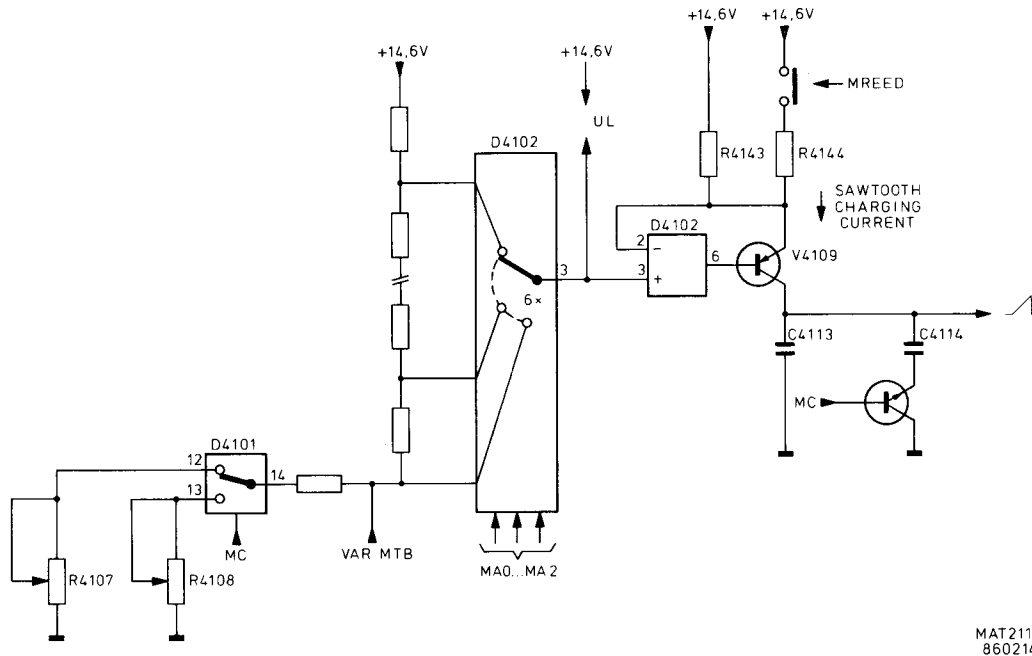

Figure 7.2 Simplified diagram of the MTB
* MTB sweep generator (See figure 7.2):